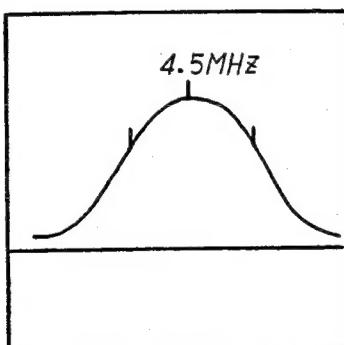

Fig. 13
3. Adjust VR303 so that the 4.5MHz watchs Fig.13.